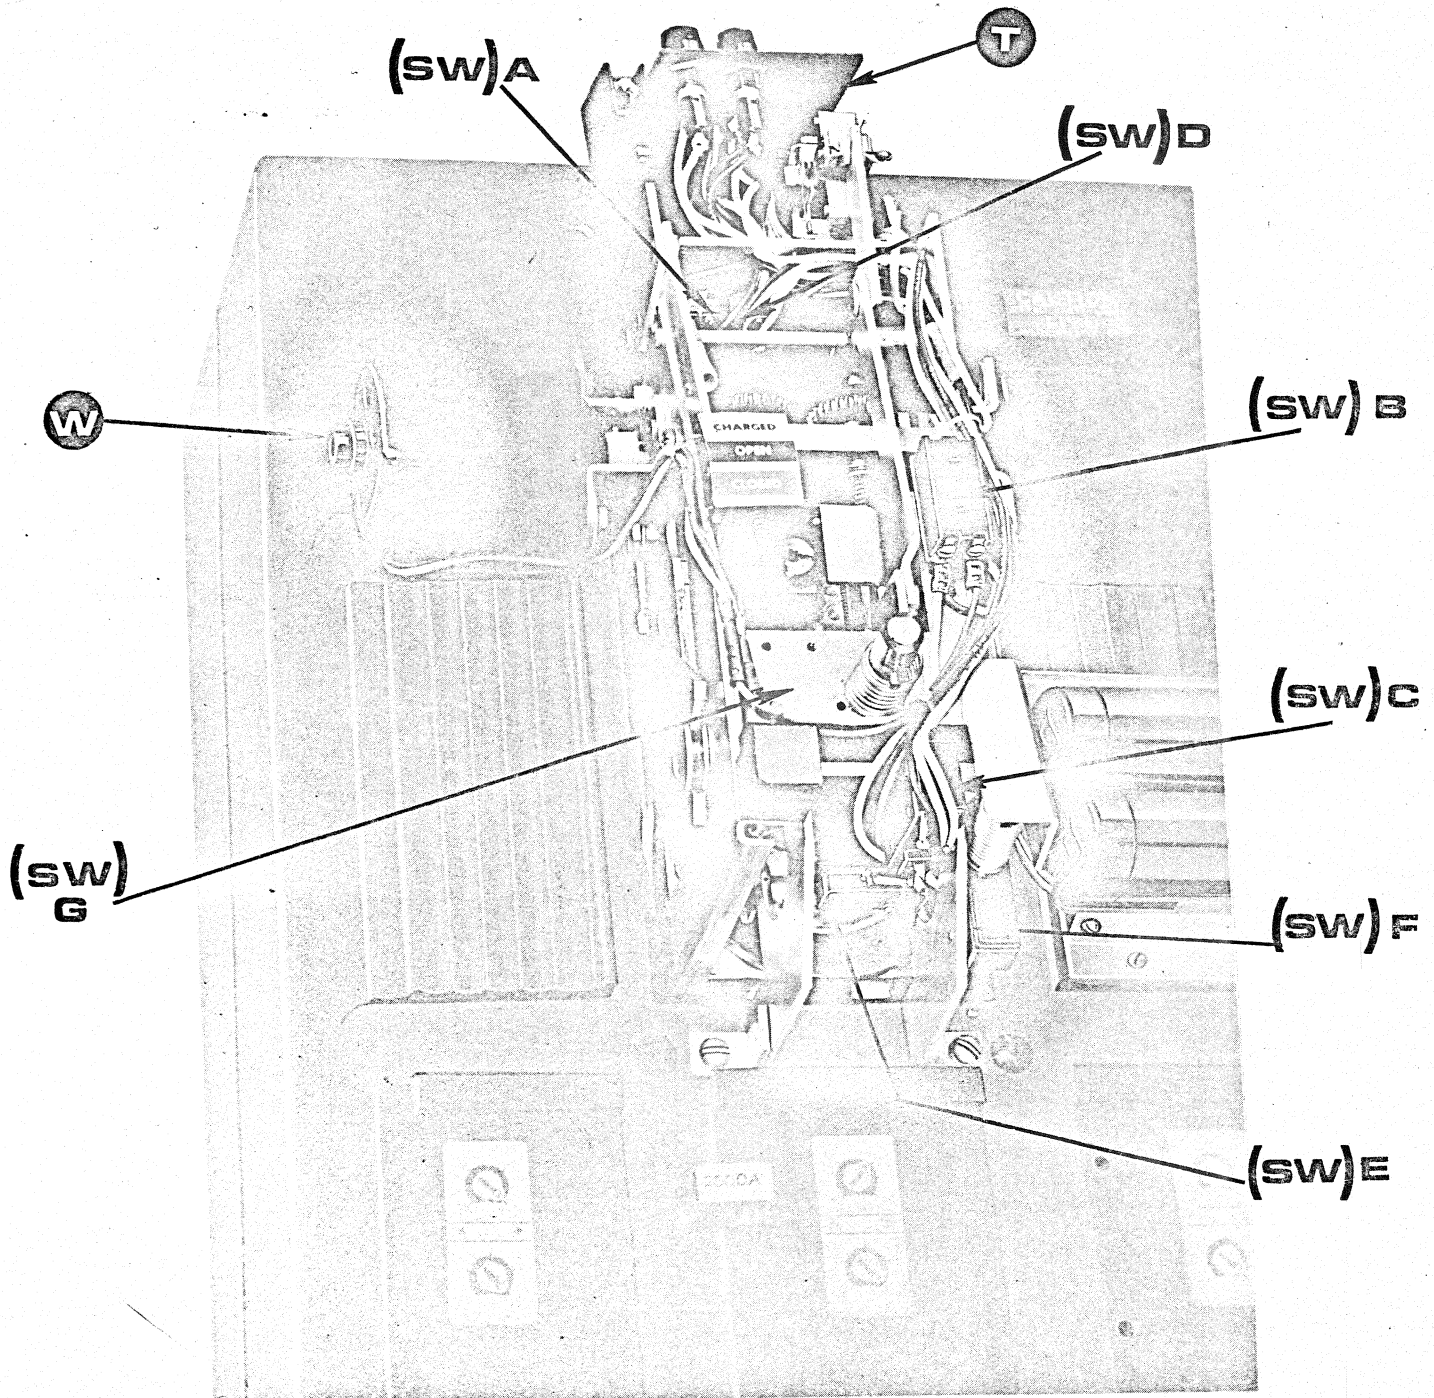

Figure 4
3. Slide outer cover on to unit taking care that terminal board support Figure 4 (T) slides into slots in cover.
shafts, Fig. 4 (W) to permit clockwise rotation of left motor shaft (counter-clockwise for right motor shaft) to move carriage to correct bottomed position. Turn shaft with screwdriver until no further motion of carriage is noted.